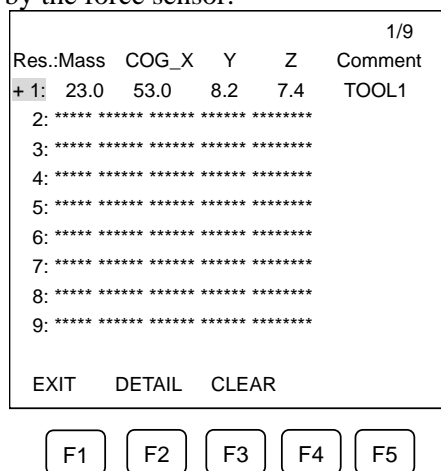

Fig.6.4(a) List screen of calculation results
Select “3: Result” on the “Menu” screen to display the “Result” screen, as shown in Fig.6.4(a). For result items 1 to 9, weight and X, Y and Z value of gravity center are displayed. For a data item with no values being set, asterisks (*) are indicated in each display field. The result item with a (+) at its left side shows it is used for gravity compensation by the force sensor.